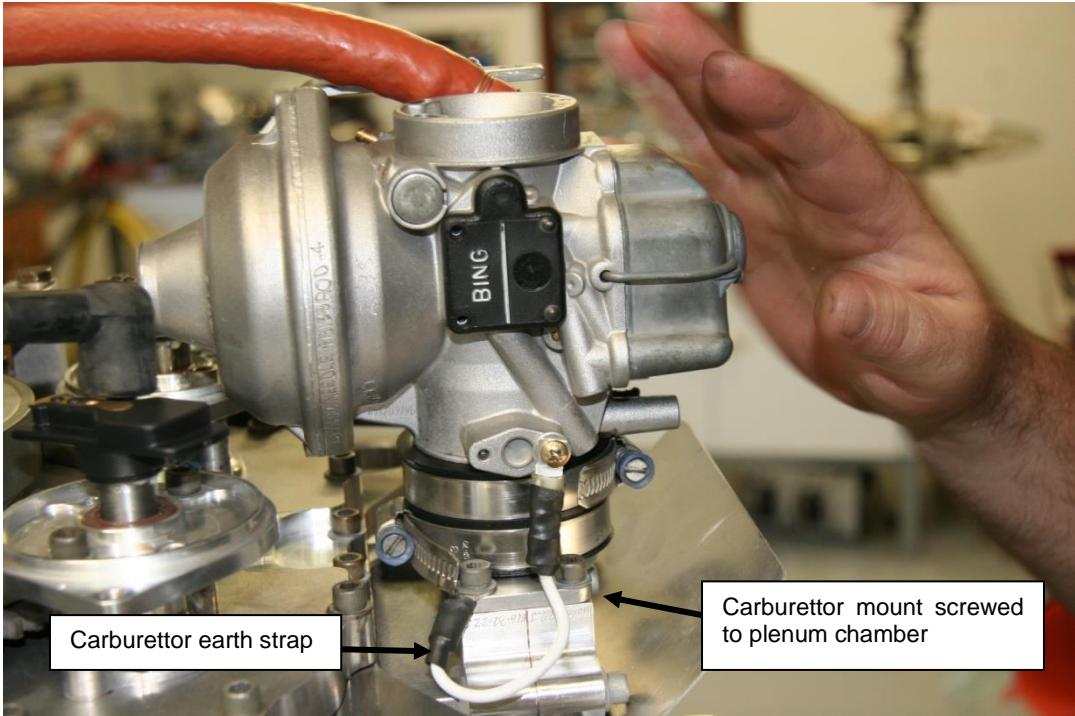

Figure 197 – Fitting Carburettor
- The carburettor mount is sealed to the rear face of the plenum chamber using Loctite 515 and attached using cap screws as shown in Figure 197. Apply Loctite 243 to these screws.